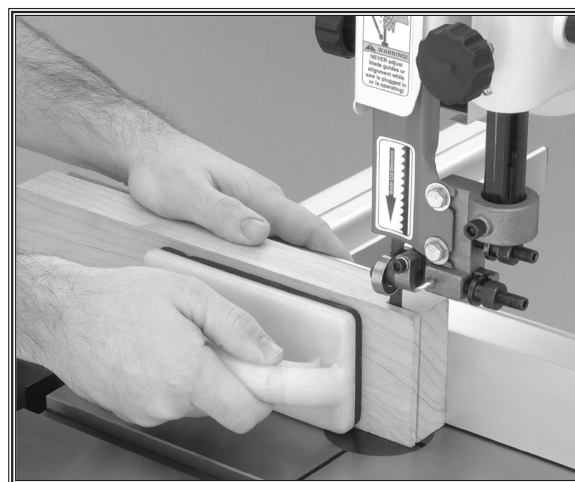

Figure 45. Example of typical resawing technique.
Resawing is the process of cutting a board into two or more thinner boards as shown in **Figure 45**. The maximum board width that can be resawn is limited by the maximum cutting height of the bandsaw.
7. Using push paddles and a push stick, keep pressure against the fence and table, and slowly feed the workpiece into the moving blade until the blade is completely through the workpiece (**Figure 45**).